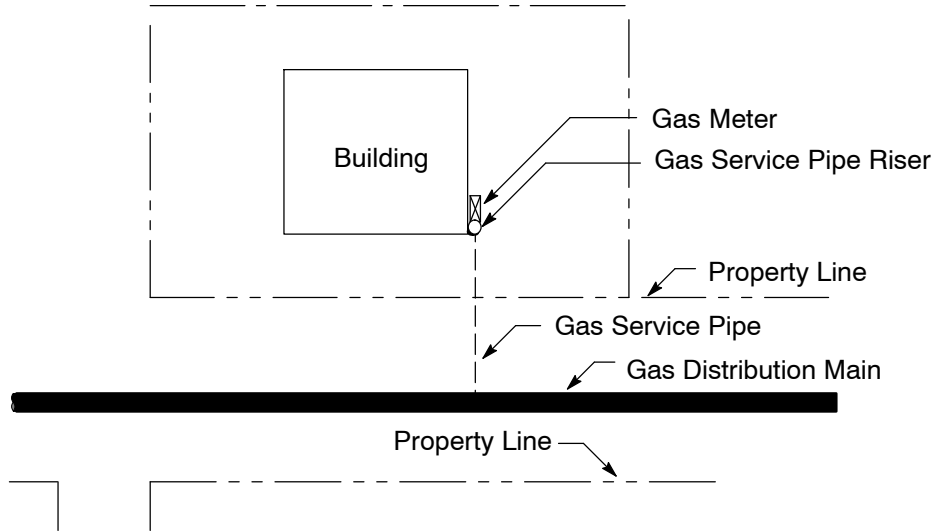

Figure 6
- (a) In a protected location adjacent to the building served (Figure 6). An exception to this requirement is for schools, where it is required to protect the meter set from vandalism by installing it in a location that is separated from buildings and playground areas. It will be necessary to install a wire cage or other suitable protective enclosure, with a cover, around the meter set in these cases. (Figure 8)